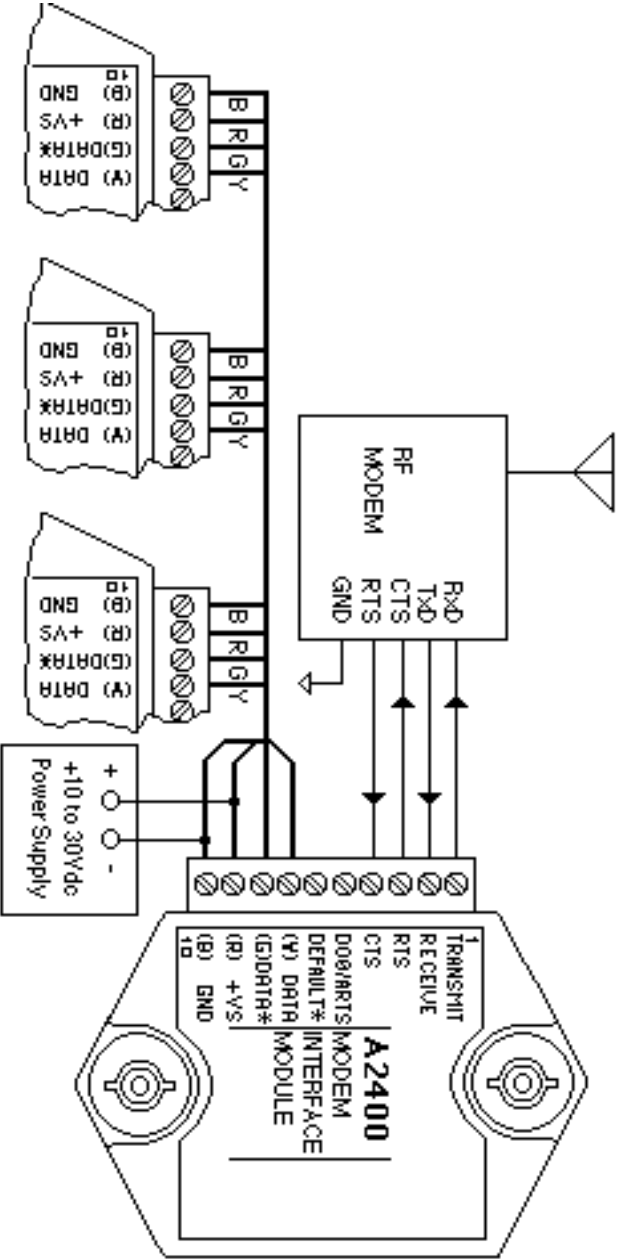

Figure 3.1 RS-485 System.
A typical installation is shown in Figure 3.1(see Chapter 3). The A2400 is used to provide an interface between a modem and a string of standard modules. Each module and the A2400 has a unique address. In a typical communications sequence the host computer and radio (not shown) will transmit a module command over the air. The modem receiver picks up the message data and presents it to the A2400 on the RS-232 port.
Figure 3.1 illustrates the wiring required for multiple-module RS-485 system. Notice that every module has a direct connection to the A2400. Any number of modules may be unplugged without affecting the remaining modules. Each module must be setup with a unique address and the addresses can be in any order. All RS-485 modules must be setup for no echo to avoid bus conflicts (see Setup). Also note that the connector pins on each module are labelled with notations (B), (R), (G), and (Y). This designates the colors used on standard 4-wire telephone cable: